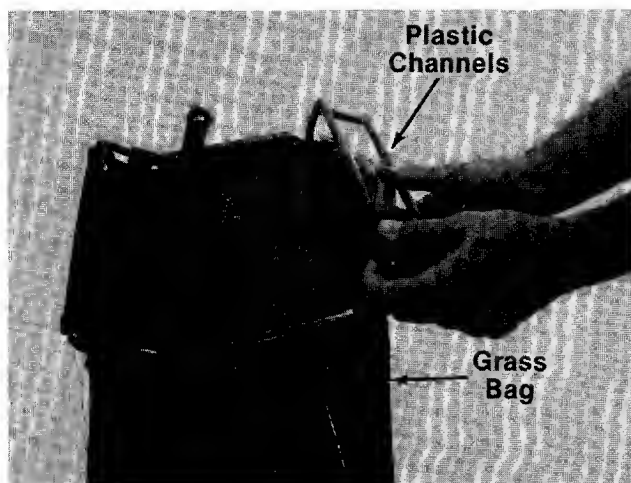

FIGURE 8.
- ← 3. Secure bag to frame by slipping plastic channels on bag over frame. See figure 8.